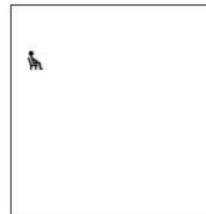

Fig. 6: Start screen
- ⇒ The blood pressure monitor switches on automatically, carries out a display test and displays the start screen. (see Fig. 5 and Fig. 6).
⇒ The display shows the start screen (Fig. 6).
- ⇒ The display shows the start screen(Fig. 6).